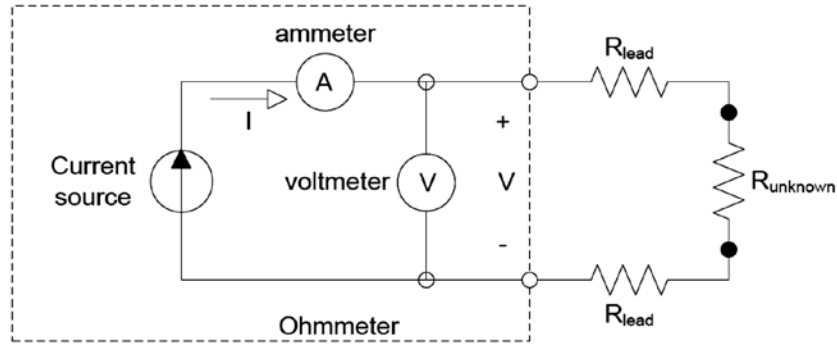

Figure 6-1 2-wire Resistance measurement
**2-wire Resistance Measurements:** Multimeters function as “Ohmmeters” when operated in resistance measurement mode. Inexpensive multimeters measure resistance by applying known voltage to the unknown resistance, measuring the resulting current, and then applying Ohm’s law. More accurate meters apply a known current and measure the resulting voltage. In either case, meter test leads can introduce substantial error into low resistance measurements. Because the wire leads have small, but finite resistance, voltage division occurs between the resistance being measured, and the resistance of the leads. Figure 6-1 shows a simplified schematic diagram of a meter connected to an unknown resistance ( $R_{unknown}$ ) by two wire leads of resistance  $R_{lead}$ . Applying Ohm’s law to the meter circuit: